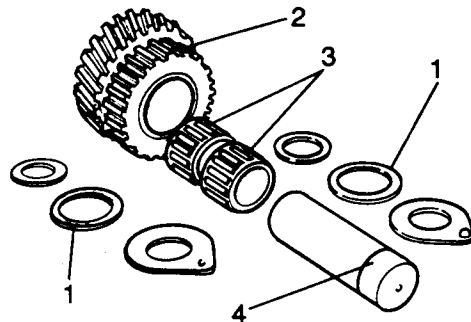

Fig H2.9
- (2) Refer to Fig H2.9. It is fundamental that the copper thrust washers (1) are not worn and if they are they must be changed.
- (3) Inspect the teeth of the gears (2).
- (4) Inspect the roller bearings (3) making sure that the fibre cages are not damaged or worn. Replace if necessary.
- (5) Inspect and change, if necessary, the shaft sealing ring (4).